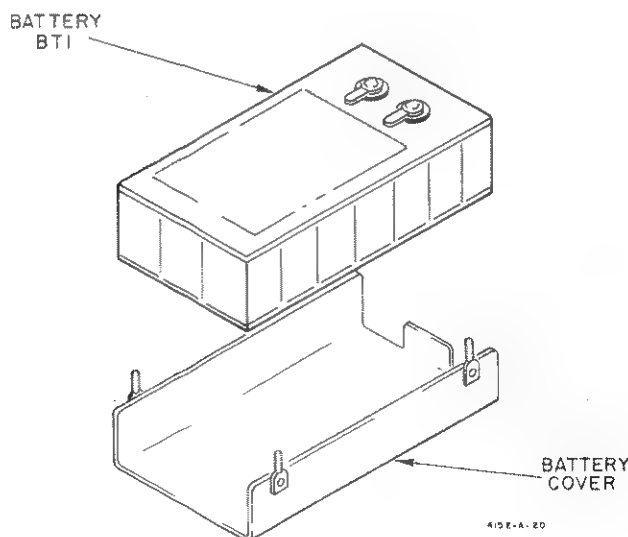

Figure I-1. Battery-Cover Assembly
c. Refer to Figure I-1 which shows the cover and battery disassembled and install from bottom of instrument into the top deck. Note: The battery should be installed so that the two battery terminals are toward the top and front of the instrument.